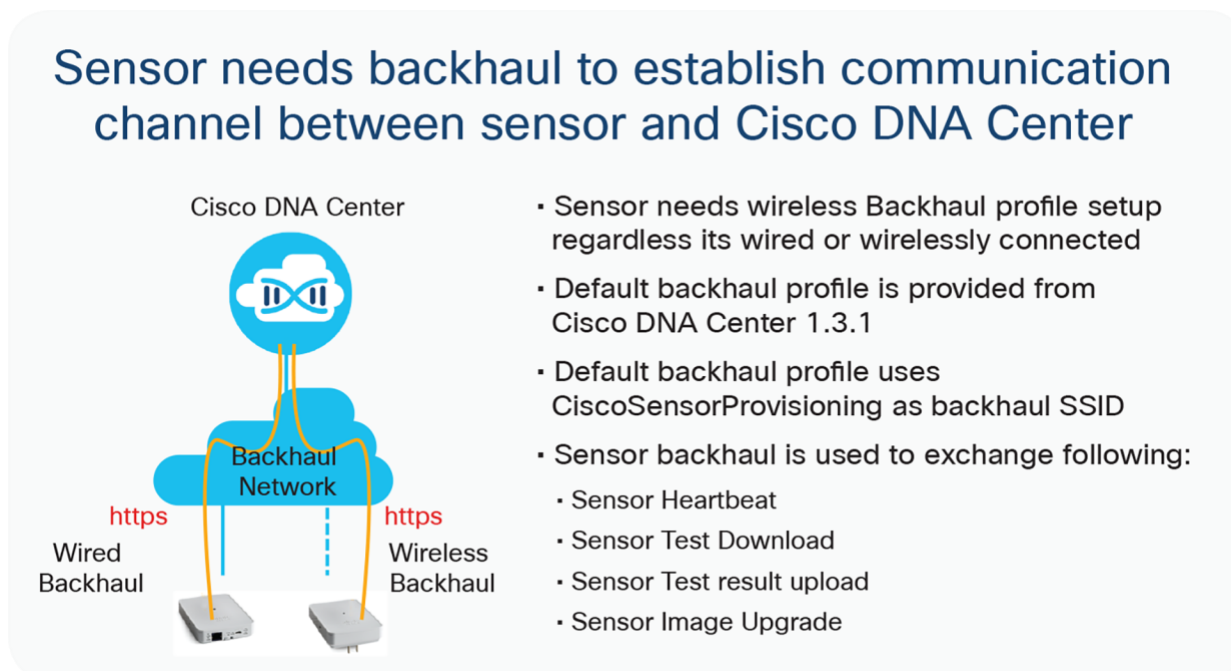

Figure 11.
If the sensor either (1) does not receive an IP address from the wired interface, or (2) does receive an IP address from the wired interface but cannot discover Cisco DNA Center, it switches to the **wireless backhaul** as a second option to search for and connect to Cisco DNA Center (**Figure 11.**). For this wireless backhaul option, the administrator must assign a sensor profile during the sensor PnP claiming step. In an SD-Access/fabric environment, the fabric edge that serves the sensor connection has a Maximum Transmission Unit (MTU) that is automatically configured to 9100.